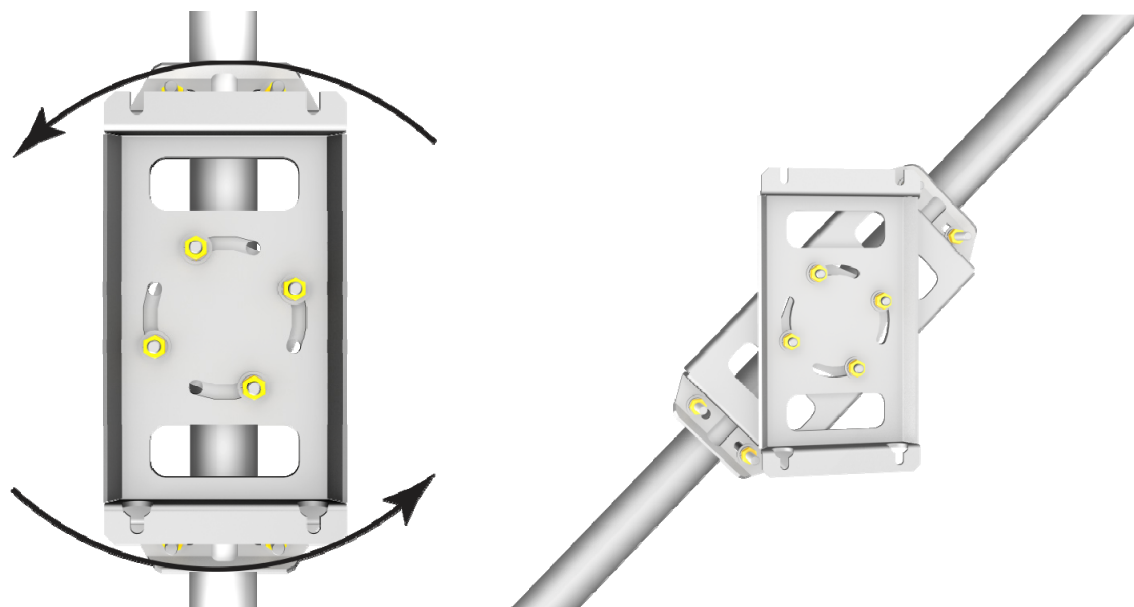
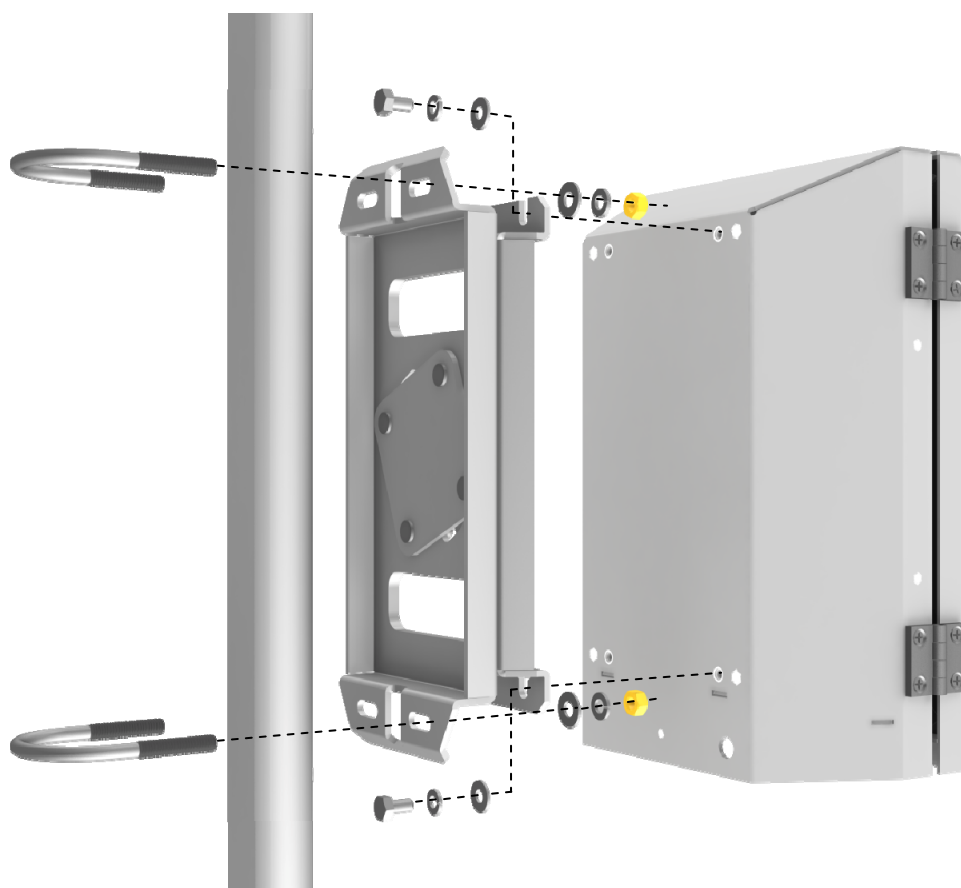

FIGURE 6-2. EC100-enclosure mounting bracket mounted on a vertical mast (left) and a tripod leg (right)
FIGURE 6-3. Exploded view of mounting the EC100 enclosure
7. Attach the EC100 enclosure to the mast, tripod leg, or other part of the mounting structure. To do this, attach the EC100-enclosure mounting bracket (pn 26604) to the pipe by loosely tightening the u-bolts around the pipe. The u-bolts are found in the mesh pocket inside the EC100 enclosure. If the pipe does not run vertically (for example, if the enclosure is being attached to a leg of a tripod), rotate the bracket to the side of the pipe. The enclosure must hang upright. Make angle adjustments as needed by loosening the four nuts and rotating the bracket plates relative to one another. If the necessary angle cannot be achieved in the given orientation, the four nuts may be removed and the top plate indexed by 90° to allow the bracket to travel in the other direction (see FIGURE 6-2). Once adjusted, tighten all the nuts. Finally, attach the EC100 enclosure to the bracket by loosening the bolts on the back of the enclosure, hanging the enclosure on the mounting bracket (it should slide into place and be able to securely hang from the bracket), and tightening the bolts (see FIGURE 6-3).